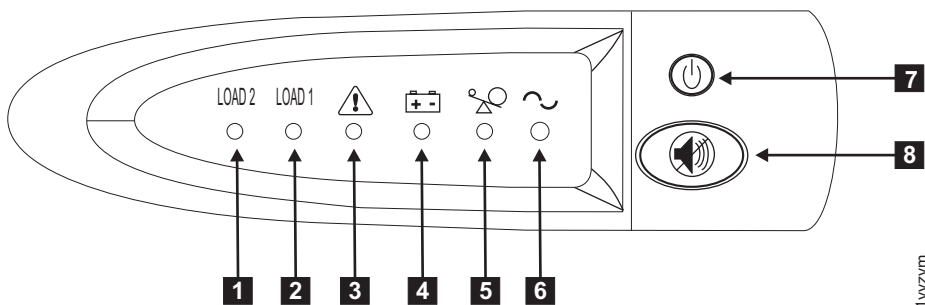

Figure 311. 2145 UPS-1U front-panel assembly
12. To turn on the 2145 UPS-1U, press and hold the on/off button ( **2** in Figure 311). On some versions of the 2145 UPS-1U, you need a pointed device, such as a screwdriver, to press the on/off button. The 2145 UPS-1U undergoes a self-test, taking approximately five seconds, before the power-on indicator **1** and the load indicators ( **7** and **8** ) light up permanently to indicate that the 2145 UPS-1U is supplying power to the SAN Volume Controller. The 2145 UPS-1U begins to charge its battery while in normal mode.